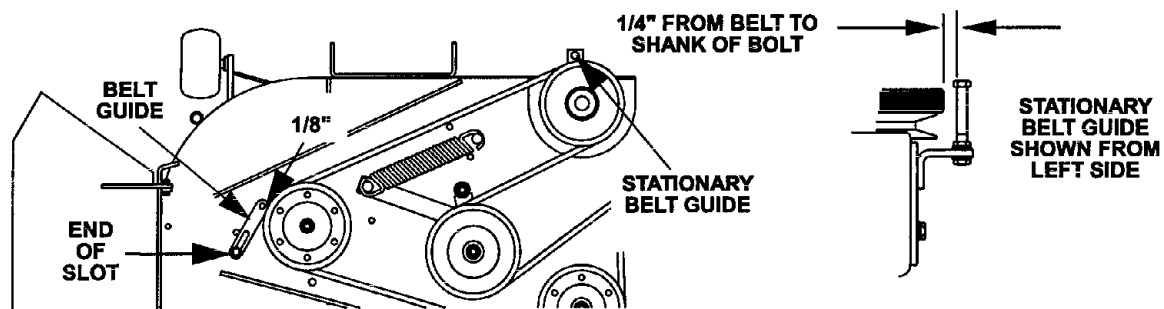

FIG. 9
- c) Note belt guide bolted to deck near the shield support stud and right-hand pulley. Guide should be 1/8" away from the belt, with bolt-end of guide at end of slot (See Fig 9).